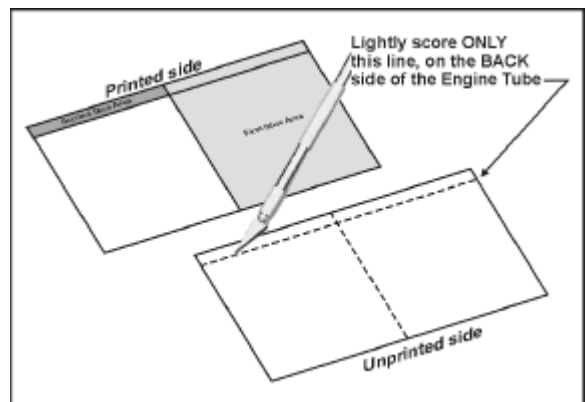

Figure 3
3. Cut out the Engine Tube and, referring to **Figure 3**, flip this over and lightly score a line opposite the horizontal line that defines the "Second Glue Area". Score this the full length of the pattern.